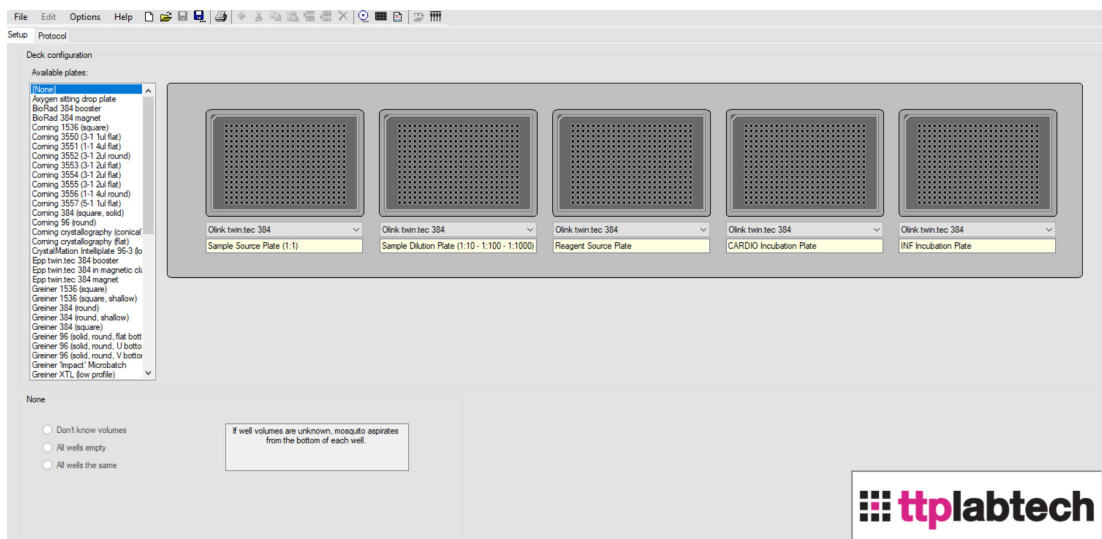

Figure 16. Setup tab (here: Incubation protocol)
- Under the *Setup* tab, the plates included in the protocol and their position on the plate deck are shown (Figure 16).